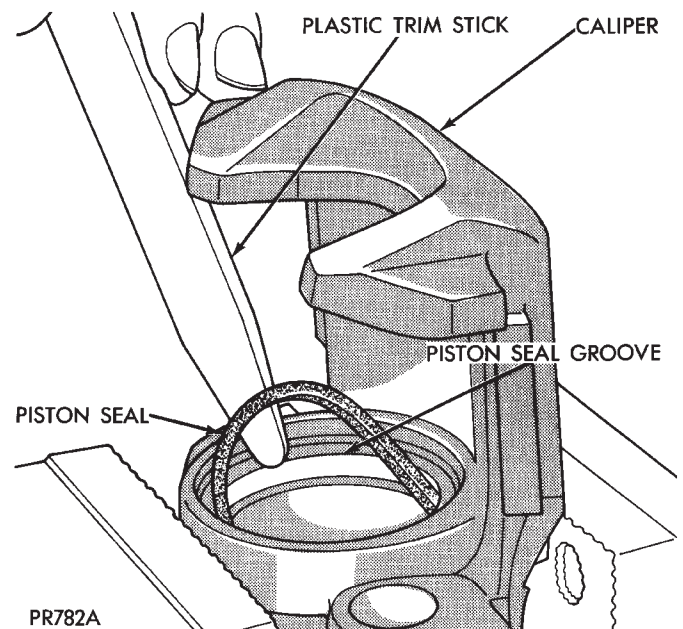

**Fig. 161 Removing Piston Seal From Caliper**
(8) Using a soft tool, such as a plastic trim stick, work piston seal out of its groove in caliper piston bore (Fig. 161). Discard old seal. **Do not use a screw driver or other metal tool for this operation, because of the possibility of scratching piston bore or burring edges of seal groove.**
(9) Clean all parts using alcohol or a suitable solvent and wipe dry **using only a lint free cloth.** No